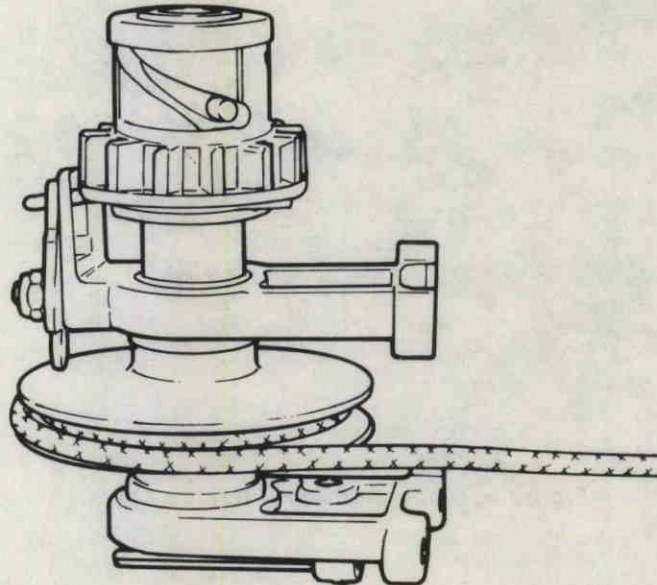

Figure 14. Manual Starter.
3. Remove manual starter. Figure 14.